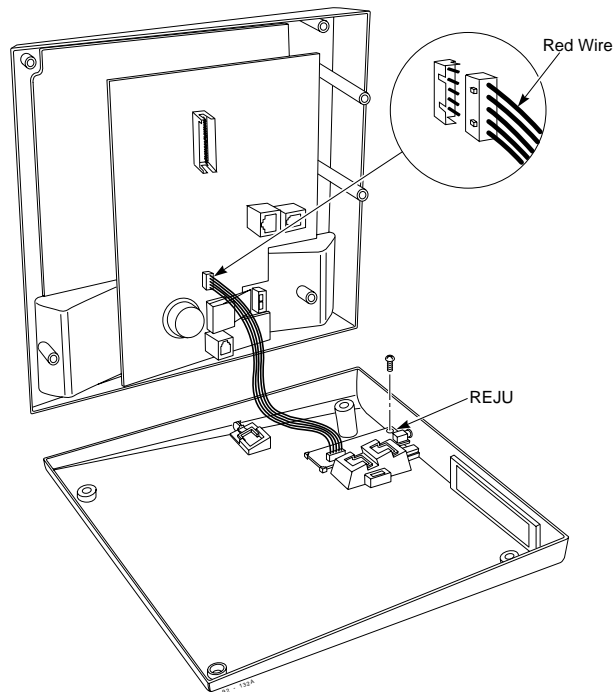

Figure 4-24 INSTALLING THE REJ
4. Install the REJ as shown with the components facing down. Refer to Figures 4-24, 4-25, and 4-26.